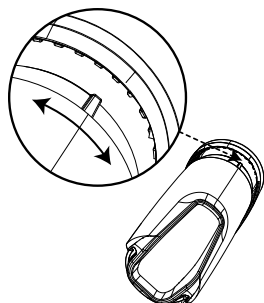
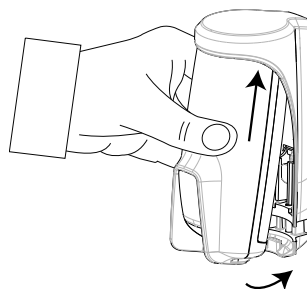

Figure 7:
Figure 8: Slotting into the device
6. Insert the top of the detector into the bracket. As you insert the detector, choose a slot in the bracket that positions the detector to cover the area that requires protection. See Figure 7 and Figure 8.